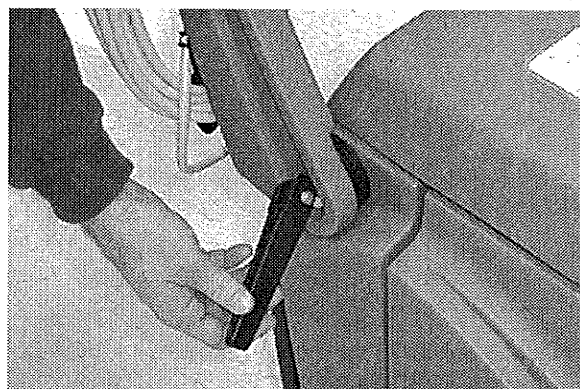

FIG. 1
2. Adjust handle from transport position. To adjust, pull handle lock lever outward and lift handle to desired operating height, re-lock lever (Figure 1).